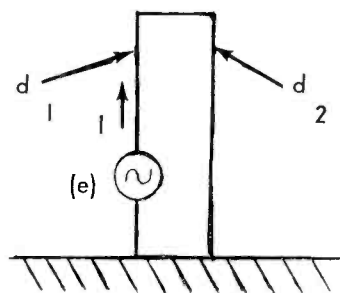
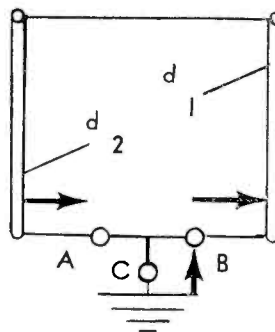

Figure 1. A one fold, folded unipole antenna.
Figure 2.
Figure 1 illustrates a one fold, folded-unipole antenna. In order to determine its input impedance, let us assume a generator voltage (e) and then find the current (I) flowing in the lower end of element d_1 as illustrated in Figure 1. Roberts (Input Impedance of a Folded Dipole, R.C.A. Review, Volume 8, No. 2, June, 1947, W. Van B. Roberts) has outlined a method for analysis of a folded-unipole antenna.
Referring to Figure 2, it should be noted that Generator A is opposing Generator C, with respect
Generators B and C impress a voltage, $2E$, on the lower end of element d_1 ; therefore, Figure 2 is equivalent to Figure 1. Our reason for using three generators is that it is fairly easy to determine the current developed by each generator and then by the principle of superposition, add these currents to obtain the actual current in the lower end of element d_1 .